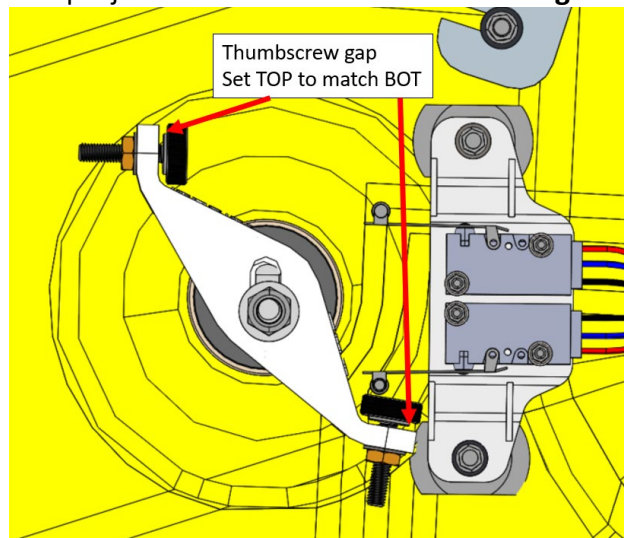

Figure 15. Adjust thumbscrew gap
17. Adjust thumbscrew on limit switch retrofit bracket so bottom (“BOT”) extended limit switch is activated. Adjust thumbscrew gap on limit switch retrofit bracket so that top (“TOP”) side has the same gap as the bottom. Torque jam nut to  $15 \pm 2$  in-lbs. Reference **Figure 15**.
- Remove the bolt, washer, and rod which engage the doors from the NLG strut. (**Figure 15**)